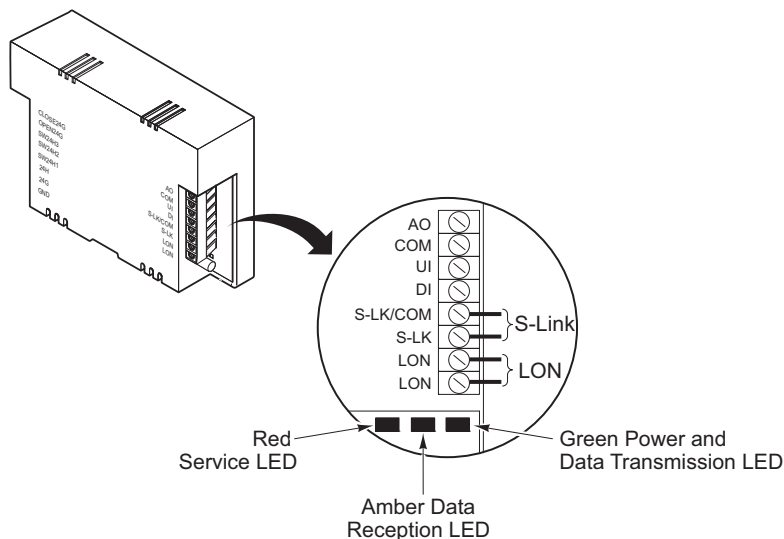

Figure-8 Location of Controller LEDs
3. Observe the green Data Transmission LED (Figure-8) and do the following:
4. Observe the red Service LED (Figure-8) and do one of the following:
5. If the controller is connected to a MicroNet LONWORKS network (LON), verify that the Reception and Transmission LEDs (Figure-8) indicate normal operation. See Table-4.